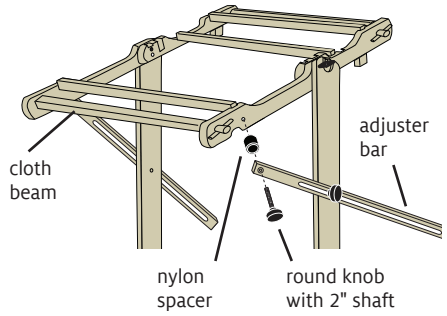

FIGURE 6: ATTACH ADJUSTER BARS TO THE LOOM
- Push a round knob with a 2" shaft through the hole in the adjuster bar (Figure 6).